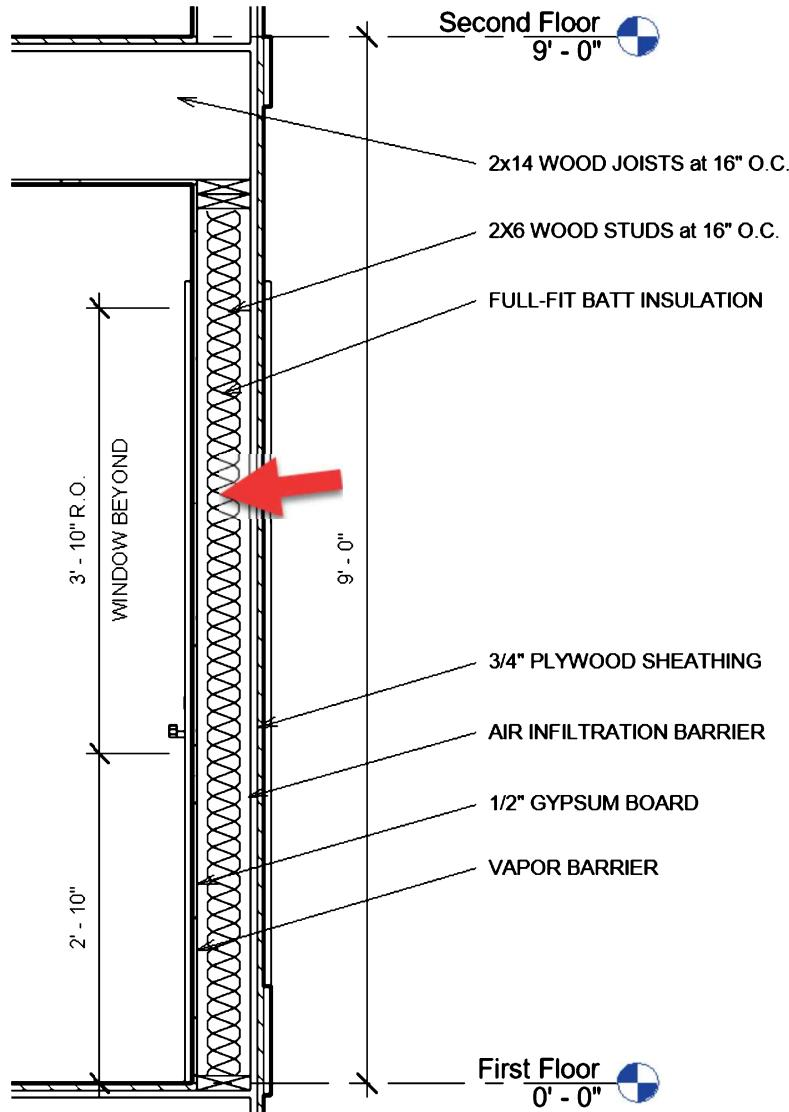

FIGURE 11-4.10 Callout of Cross Section 1 view; Insulation added
21. Pick the midpoint of the sill plate and the top plate to draw a line that represents the center of the batt insulation symbol; you can pick in either direction (Figure 11-4.10).